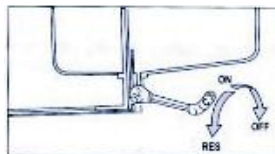

Fig. 29
- 6.2 **Control of flow of petrol (Fig. 29):** There is a fuel tap under the seat that has three positions: (ON) for a regular flow of fuel, (OFF) to stop the flow of fuel from the tank to the engine and (RES) that must be activated when on reserve.